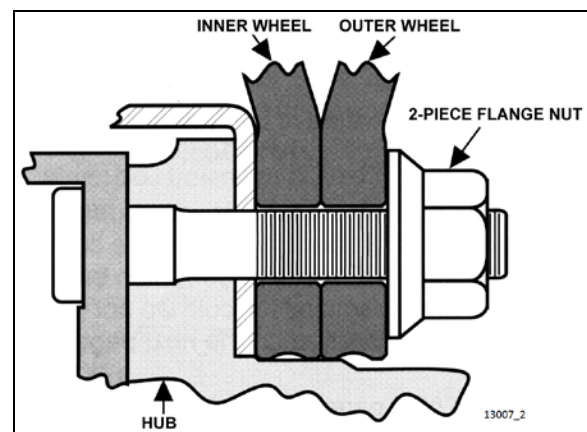

FIGURE 5: DRIVE AXLE WHEELS
1. Loosen a hex stud nut three turns (Figure 5);